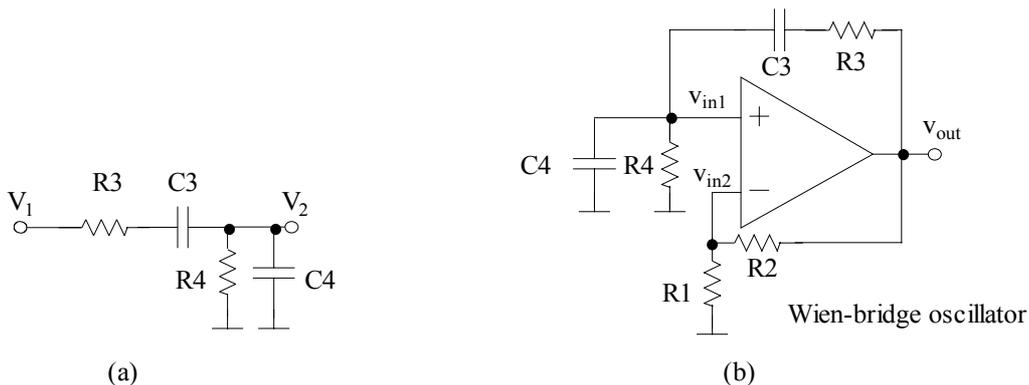

Figure 7.19 Circuits for (a) problem 3 and (b) problem 4.
3. Consider the circuit in Figure 7.19(a). Find the transfer function  $H(\omega) = V_2(\omega)/V_1(\omega)$ . Determine the frequency at which  $\angle H(\omega) = 0$ , when  $R_3 = R_4$  and  $C_3 = C_4$ . What is  $|H(\omega)|$  at that frequency?
4. The circuit shown in Figure 7.19(b) is called the *Wien-bridge* oscillator. The circuit given in Figure 7.19(a) provides the positive feedback. The circuit oscillates at the frequency  $\omega_0$  where  $\angle H(\omega_0) = 0$ , if the condition  $(1+R_2/R_1)H(\omega_0) > 1$  is satisfied. What is the minimum value of  $R_2/R_1$  so that the circuit can oscillate, if  $R_3 = R_4$  and  $C_3 = C_4$ ?